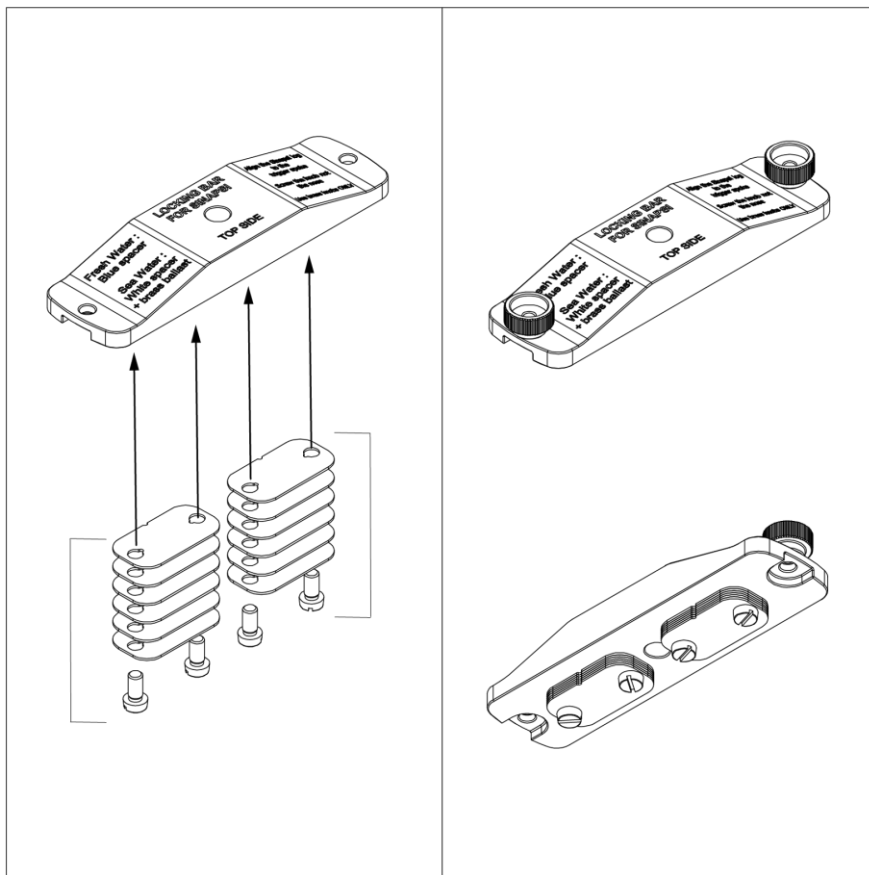

Fig 15 - Composition elements on the titanium plate
- The resulting weight is the TOTAL weight * that the plate for the SINAPSI nose must have (titanium plate + ballast + brass screws). For the arrangement of the elements on the titanium plate to compose the total weight, refer to **Fig 15 - a pag. 16**, in particular, proceed in the order indicated:
- Attach three weight units to the underside of the plate on the left (1 - **Fig 15 - a pag. 16**);
- Fix three ballast units on the lower side of the plate on the right (2);
- Fix on the plate (supplied with the SINAPSI nose) two ballast units on the upper and central side of the plate (3).